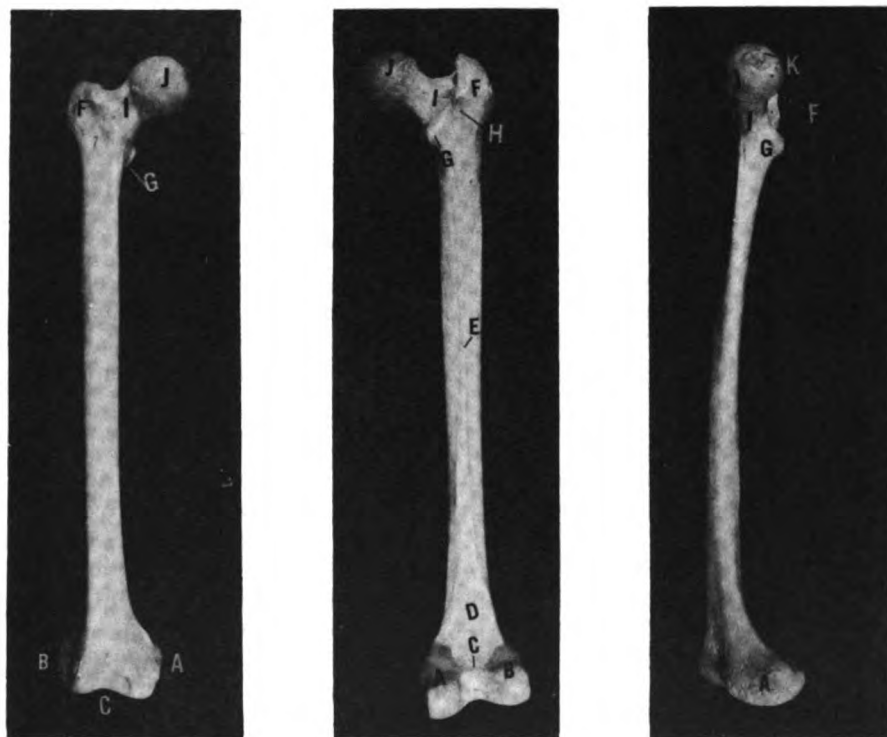

Figure 4-14 The Femur - AP, PA and Medial Side Views
THIGH. The thighbone is the **FEMUR**. It is the largest, longest and strongest bone in the body. It has a shaft and two extremities. The distal extremity helps make up the knee joint. The structures on the femur are the **MEDIAL (A) AND LATERAL (B) CONDYLES**, **INTERCONDYLOID FOSSA (C)**, **POPLITEAL TRIANGLE (D)**, **LINEA ASPERA (E)**, **GREATER (F) AND LESSER (G) TROCHANTERS**, **INTERTROCHANTERIC CREST (H)**, **FEMORAL NECK (I)** AND **THE HEAD OF THE FEMUR (J)** as shown in Figure 4-14.